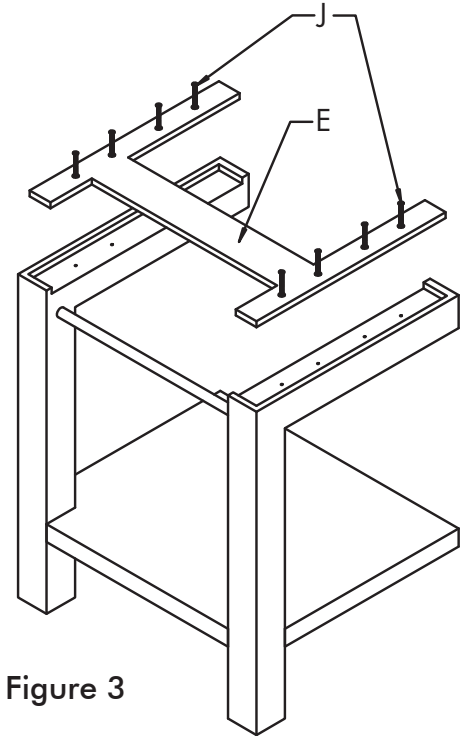

Figure 3
- Using **Support Screws (J)** attach **Vanity Support (E)** to unit.
- Refer to Figure 3. (Make sure cross bar is at the front of console).